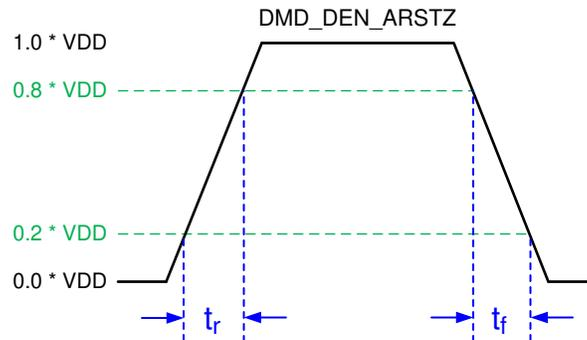

Figure 2. LPSDR Input Rise and Fall Slew Rate
| t r                  | Rise slew rate (1)    | (20% to 80%) × VDD, see Figure 2                         | 0.25 |      |      | V/ns |
| t f                  | Fall slew rate (1)    | (80% to 20%) × VDD, see Figure 2                         | 0.25 |      |      | V/ns |
(1) Specification is for DMD\_DEN\_ARSTZ pin. Refer to LPSDR input rise and fall slew rate in Figure 2.
(2) Specification is for SubLVDS receiver time only and does not take into account commanding and latency after commanding.